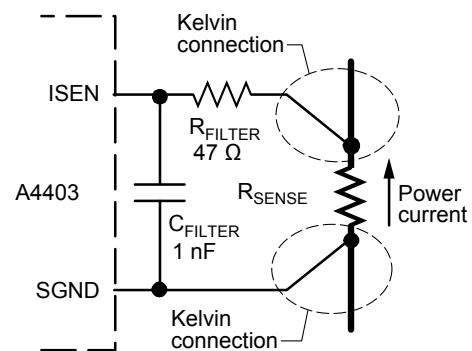

Figure 3. R-C filter added to the current sense circuit
**Sense Resistor.** The sense resistor should be a surface mount package, with low inductance. On no account should a wire-wound or through hole package be used. To prevent potential mistriggering problems from occurring in noisy systems, it is recommended that an R-C filter be applied across the sense resistor, as shown in figure 3.
When laying out the PCB, it is essential that the sense resistor connections, carrying the power current (see figure 3), are as short and wide as possible to minimize the effects of leakage inductance noise. In addition, the Kelvin sense circuit connections should be as close to the sense resistor pads as possible.
circuit (see figure 3) to the corresponding pins on the A4403 (ISEN and SGND). Note that it is imperative that the PCB traces between the sense resistor pads and the sense connections are as short as possible to minimize the effects of leakage inductance.